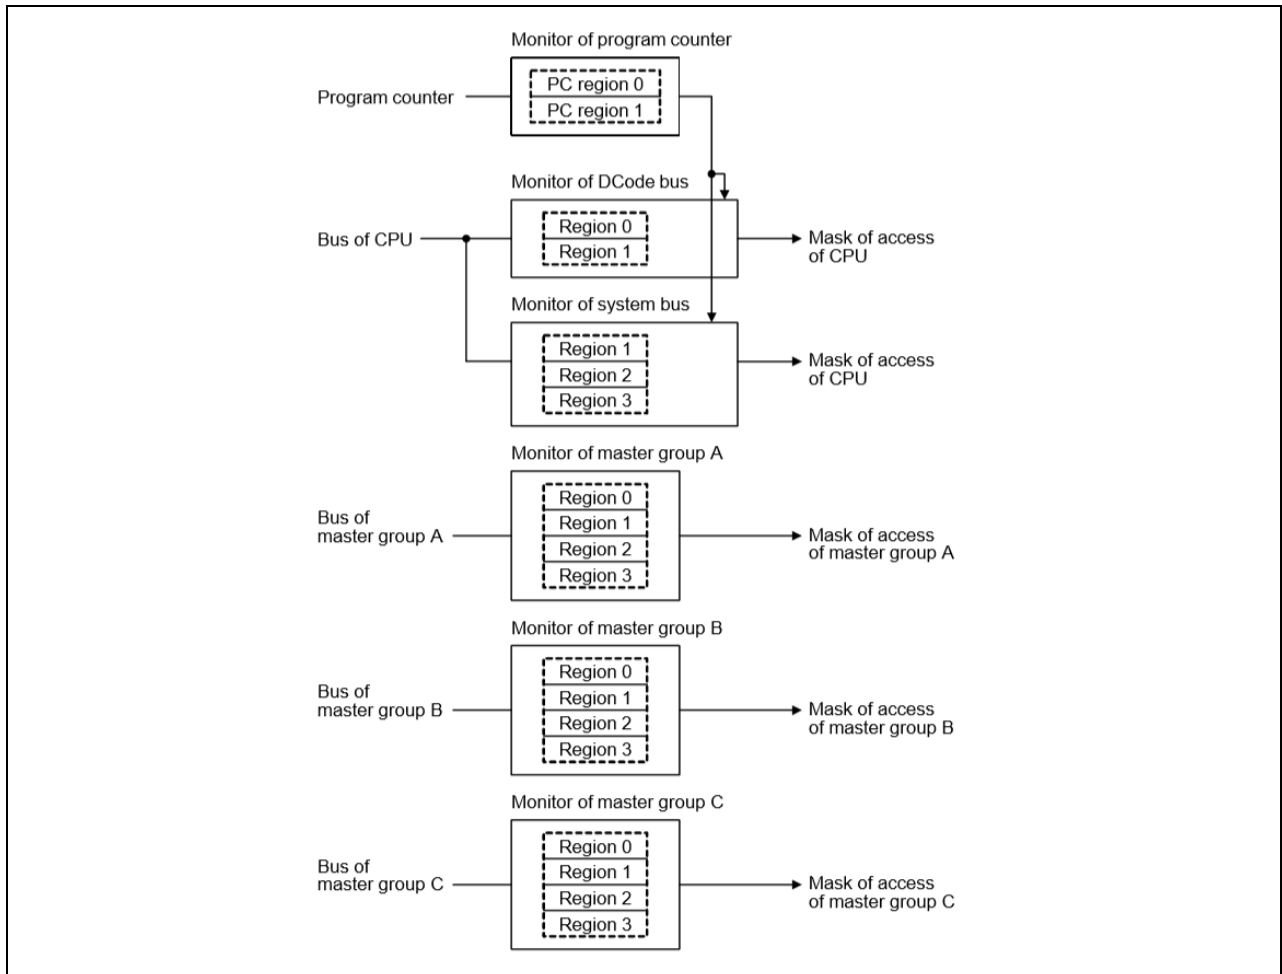

Figure 5. Data Protection for Security MPU Regions
- The Security MPU monitors and protects secure flash and secure SRAM data regions (Region 0 and Region 1) from unauthorized CPU read from the D Code bus (Data access), as shown in Figure 5. The I Code bus (Instruction access) is not monitored. This allows secure instructions to be accessed by non-secure program.
- The Security MPU monitors and protects secure SRAM data and security function regions from system bus access (e.g. debugger access), as shown in Figure 5.